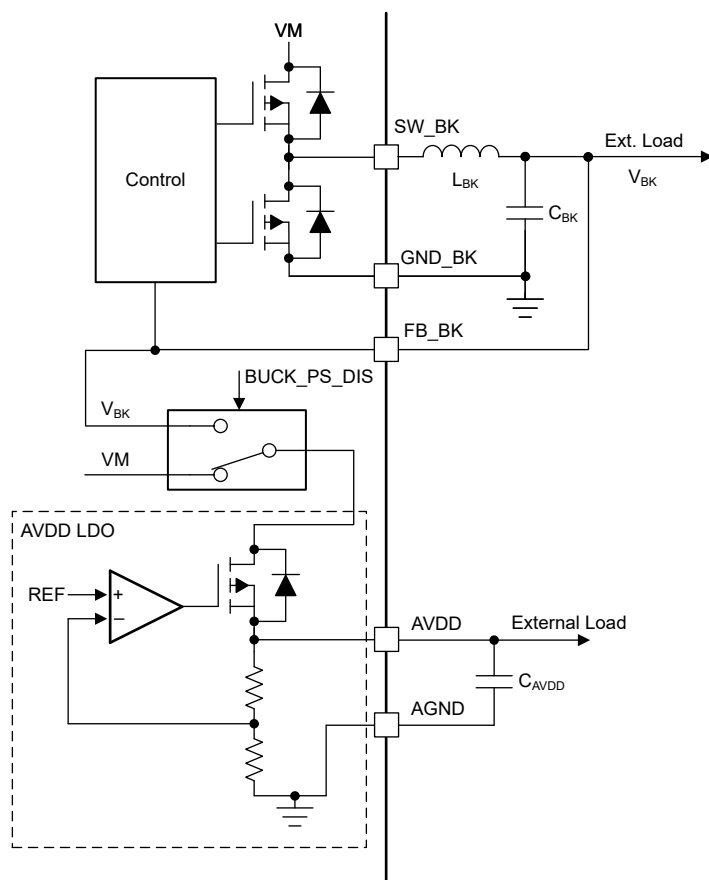

图 8-6. AVDD Power Sequencing from Mixed Mode Buck Regulator
The AVDD LDO has an option of using the power supply from mixed mode buck regulator to reduce the device power dissipation. The power sequencing mode allows on-the-fly changeover of AVDD LDO input from DC mains (VM) to buck output (V_{BK}) as shown in 图 8-6. This sequencing can be configured through the BUCK_PS_DIS bit. Power sequencing is supported only when buck output voltage is set to 5-V or 5.7-V.